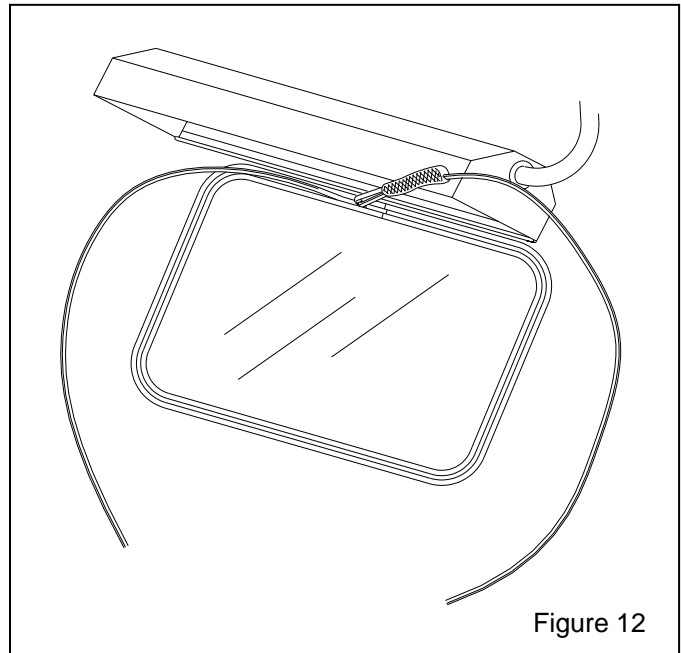

Figure 12
**6.3.9** Insert the end of the installation tool and filler strip into the filler strip channel of the molding, about two inches to the left of the window molding ends, as shown in Figure 12. The rounded side of the filler strip faces up.